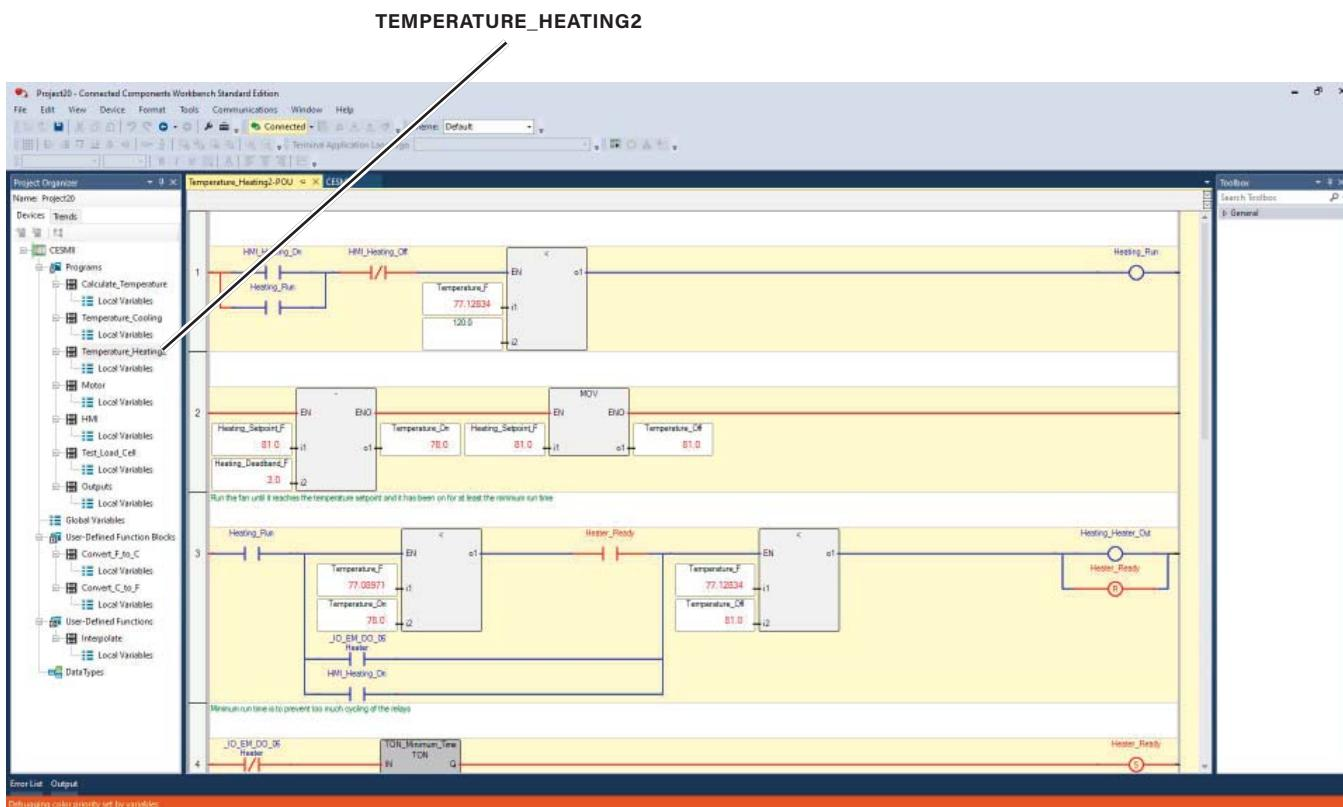

Figure 3-16. CCW Temperature_Heating2 Ladder Logic
- B. Notice that Temperature_Heating2 program window will open as shown in figure 3-16.